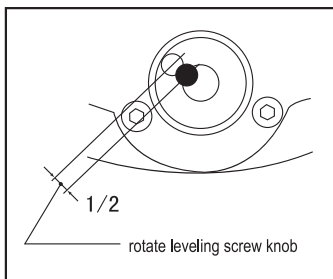

fig.8
1. Rotate the leveling screw knob 9 to ensure the air bubble moving toward to the center of circular bubble vial, the deviation should be at  $1/2$  between the center and the end position(see fig.8)